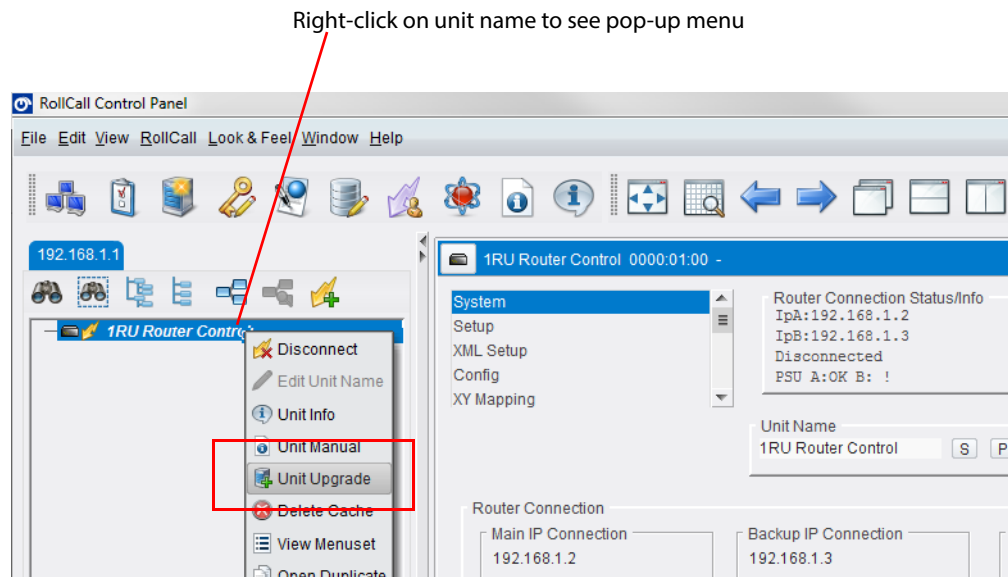

Fig. 8-4: Unit Upgrade Menu Item
- 1 Right-click on the router control panel's name in RollCall Control Panel (see Figure 8-4).